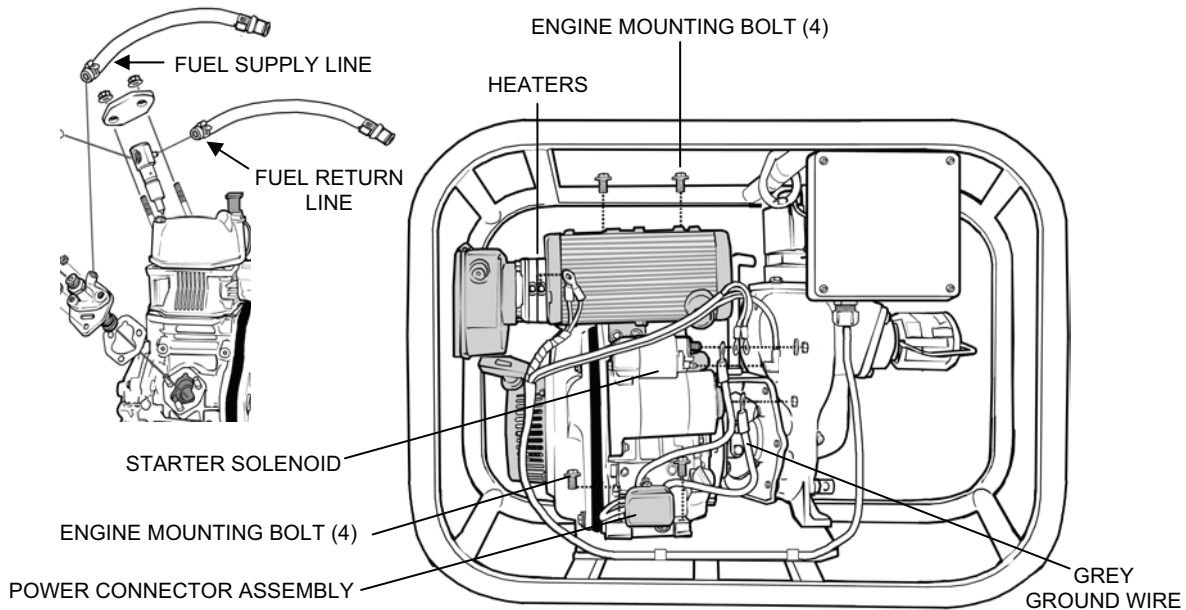

Figure 4. Removal of Diesel Engine from Skid.
- k. Tag and disconnect the blue, red, and red-banded gray wires from the two terminals on the engine starter solenoid (see Figure 4).
- b. Install the power connector assembly onto the side of the engine using the two bolts, two flat washers, and two lock washers (see Figure 4).
- c. Install the fuel supply and return lines (see Figure 4).
- a. Apply sealing compound to the threads of the remaining four threaded studs extending from the pump housing through the adapter (WP 0038, Table 1, item 40). Install the nuts onto the studs.
- b. Remove the two nuts initially installed onto opposing studs. Apply sealing compound to the stud threads and reinstall the nuts (WP 0038, Table 1, item 40).
- 7. Install the engine/pump assembly on the pump skid as follows (see Figure 4):